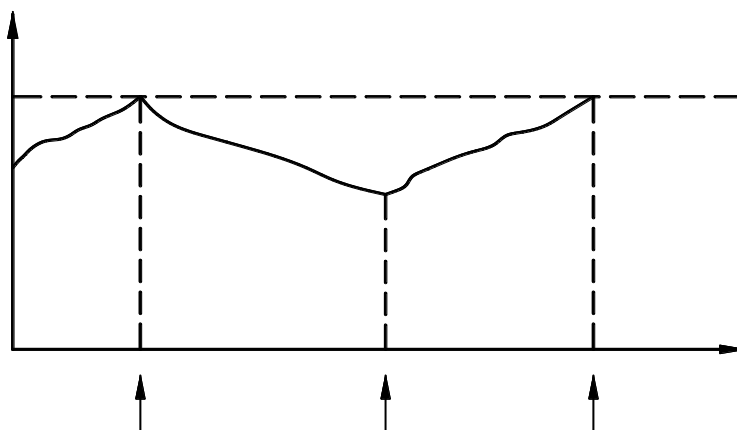

Figure 2 Thermal Memory Characteristics with the Auxiliary Power Supply
4.1.2.5 When the controller is connected to the auxiliary power supply, the heat capacity reduces after the action of the circuit breaker, and the heat capacity produced by the previous current after closing of the circuit breaker will be memorized. The heat capacity reduces after disconnecting of the action, and the heat capacity after reclosing will continue to change according to the present current. As shown in Figure 2: